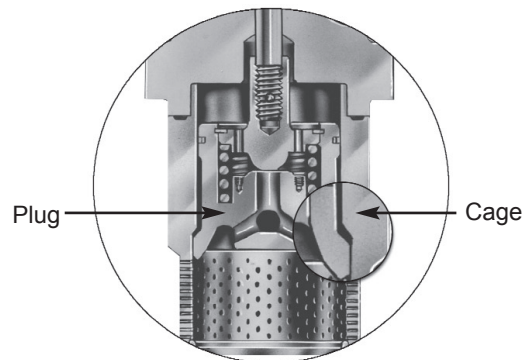
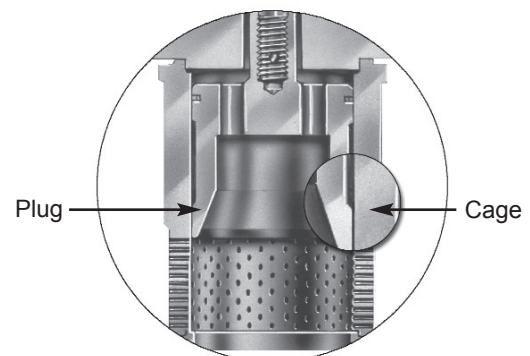

Figure 2 - Bell-Shaped Plug Design
Figure 3 - Straight Plug Design
4. Remove the body nuts (5).
5. Disassemble the bonnet flange (3) from the valve body (1).
6. Lift the bonnet (2) and metal seal (6) to remove from the valve body (1). During this operation, the valve stem (7) must be pushed downward to ensure the valve plug (8) remains inside the valve body.
*Note: The metal seal (6) may require some force to remove from the bonnet (2). Using a common tool, such as an open-end wrench, lever the seal up at various points to lift out evenly.*
7. Remove the body gasket (25) from the top of the valve cage (10) or (if applicable) cage retainer (11). Proceed to step 10.
8. Lift the bonnet (2) and remove from the valve body (1). During this operation, the valve plug stem (7) must be pushed downward to ensure the valve plug (8) remains inside the valve body (1).
9. Remove the body gasket (25) from the groove on top of the valve body (1).
10. If applicable, remove the conical spring (14) from the groove on top of the valve cage. Some designs for high temperature service may include a conical spring.
11. Remove the valve plug assembly (8) from the valve cage by pulling the valve plug stem (7) upward. In the case of the bell-shaped plug design (see Figure 2), pulling the plug stem (7) will remove both the plug (8) and cage (10) or (if applicable) cage retainer (11) together. For straight plug designs (see Figure 3), after removal of the plug (8) lift the cage (10), and (if applicable) the cage retainer (11) to remove from the valve body (1).
*Note: For straight plug designs, as shown in Figure 3, care must be taken to ensure the cage is not lifted out during removal of the plug.*
12. Remove the seat ring (13) by lifting the part out of the valve body (1).
*Note: The upper seat ring gasket (26) if supplied is located on the top groove of the seat ring.*
13. Remove the lower seat ring gasket (26) from the valve body (1).
14. Remove the packing set (19) and the guide bushing (20) from the bonnet (2).